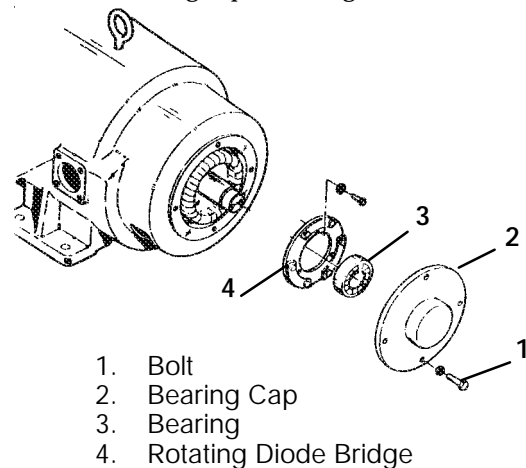
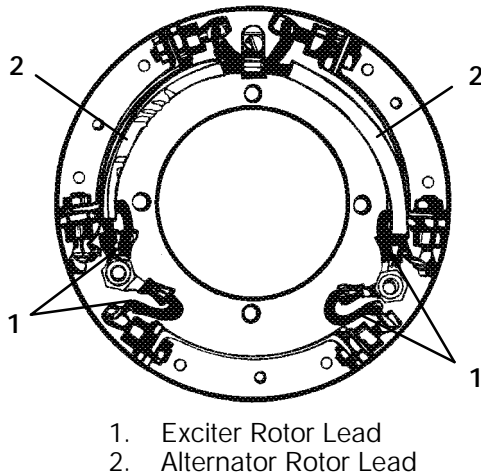

Figure 4-3. Rectifier Removal
Figure 4-4. A-C Generator (Rectifier Assembly)
1. Remove bearing cap. (See Figure 4-3.)
The rotating diode bridge can be removed and replaced. Overcurrent, overvoltage, overspeed, or reverse currents can cause damage to the assembly or any of the component parts. The rotating diode bridge may be removed through the bearing cap on the rear of the generator. (See Figure 4-4 and Figure 4-3.)
1. Remove the bearing cap by removing the four bolts shown in Figure 4-3 and both the bearing and rectifier assembly will be visible.
2. Use a bearing puller to remove the bearing from main shaft being careful to locate the puller on the inner race of the bearing to avoid bearing damage. Once the bearing is free, it is then necessary to disconnect the alternator and exciter rotor leads as shown in Figure 4-4.